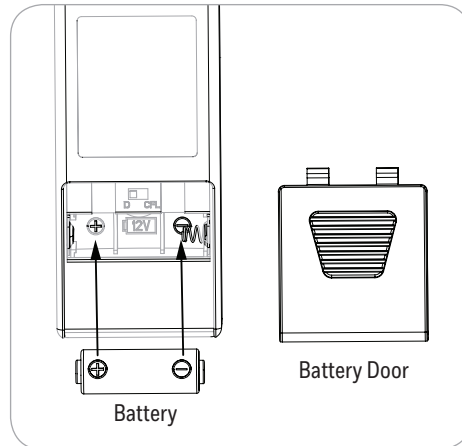

Figure 2.17
17. Remove the battery cover from the back of the remote transmitter and insert the 12-volt battery, noting polarity -- positive (+) to positive (+) and negative (-) to negative (-). Replace the battery cover. If battery is installed correctly, the LED indicator on the front of the remote transmitter should illuminate when any button is pushed (Figure 2.17).